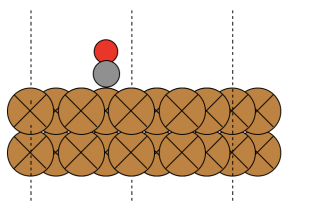

Figure 3: Chemisorption of CO on Cu(111) in the XZ-plane.
The lower adsorption energy of CO over CH₄ means it is more tightly bound to the Cu(111) surface and an energy barrier needs to be overcome in order for this adsorbed species to leave the lattice site. From figure 3, it is clear that CO chemisorbs onto the Cu(111) surface as the CO molecule is visibly attached to the surface as a result of (weak) chemisorption.